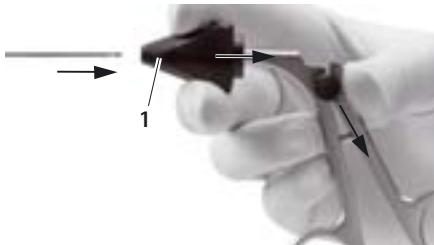

Fig. 8
- Slide back and hold star wheel 1 at its positive stop, see Fig. 8.